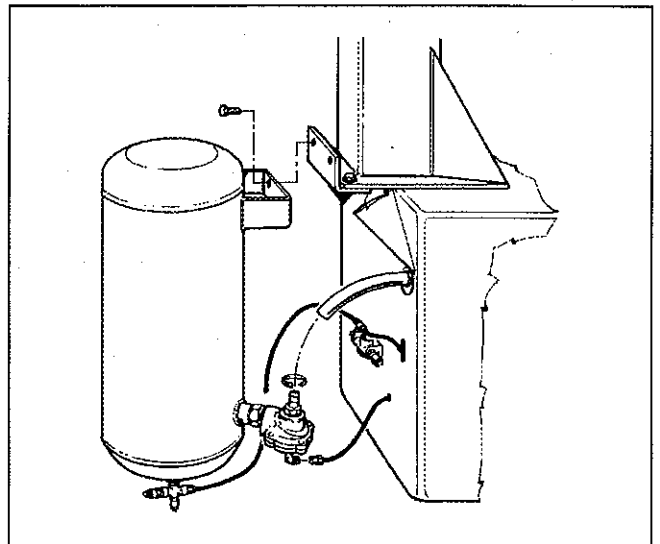

Fig.9
K. Attach the air tank to the back of the cabinet as shown in Fig.9. Attach all of the air hoses.